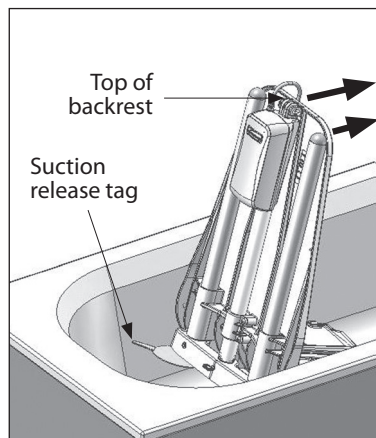

Figure 4
- While holding the top of the backrest, pull the suction release tags on the rear suction feet then tilt the bath lift forward (**fig 4**);